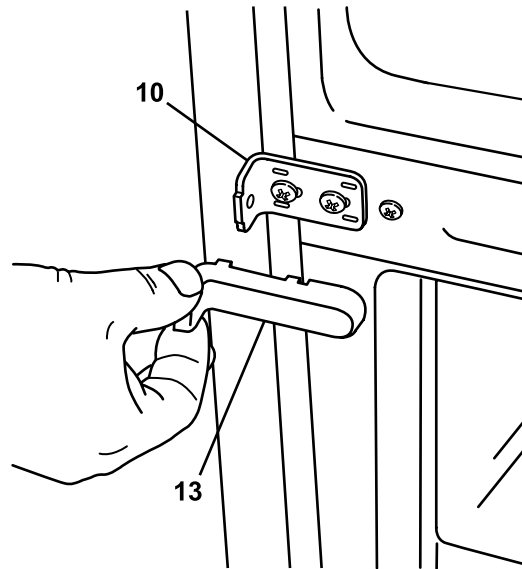

Figure 21
8. Remove the center bracket cover (**Fig. 21, 13**) and then the center bracket (**Fig. 21, 10**).